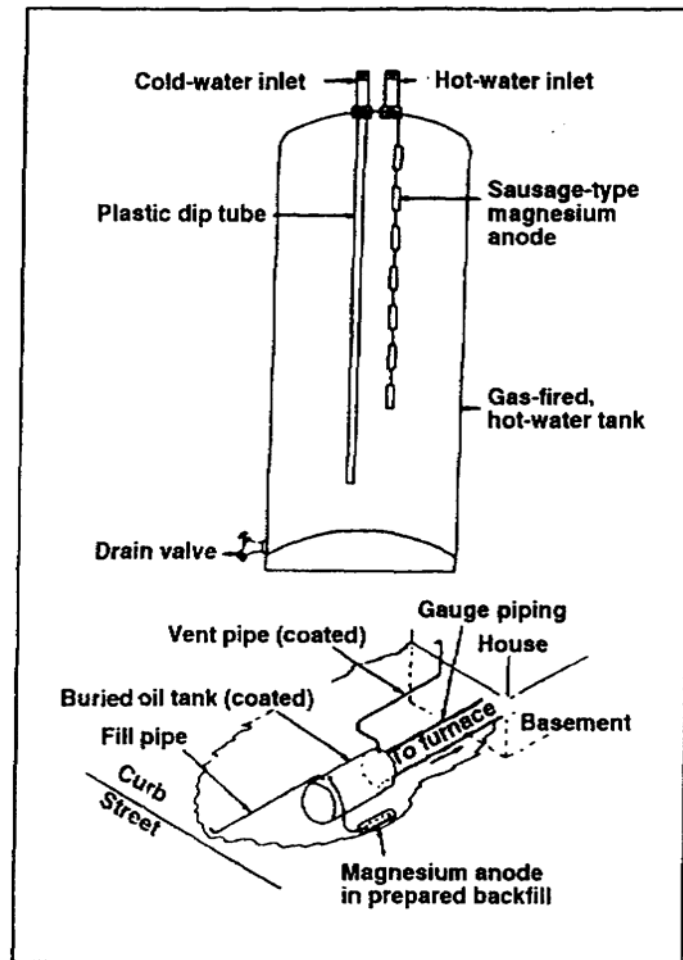

Figure 5-10. Galvanic cathodic protection
(1) Galvanic anode method. This cathodic protection method uses an electrode that is referred to as a sacrificial anode which corrodes to protect a structure. This sacrificial anode is electrically connected to, and placed in, the same electrolytic area of the structure. To protect iron or steel structures, use a sacrificial anode made of magnesium or zinc so that it will produce a sufficient potential difference to cause the structure to become a cathode. The action of this galvanic protection causes the electrical current to flow from the sacrificial anode through the electrolyte to the structure to be protected. The electrical connection between the two metals completes the circuit and allows current to return to the corroding metal. The sacrificial anode becomes the anode of the established, dissimilar metal galvanic cell; the structure to be protected becomes the cathode. The current from a sacrificial anode is intense enough to oppose or prevent all positive current flows from leaving the anodes in the structure to be protected. The prevention of the positive current flow from the anodic areas in the structure reduces the corrosion rate to almost zero. Galvanic cathodic protection is used in areas where the corrosion rate is low and electric power is not readily available. The gas-fired, hot-water tank and the buried oil tank, shown in Figure 5-10, are typical examples of galvanic cathodic protection.